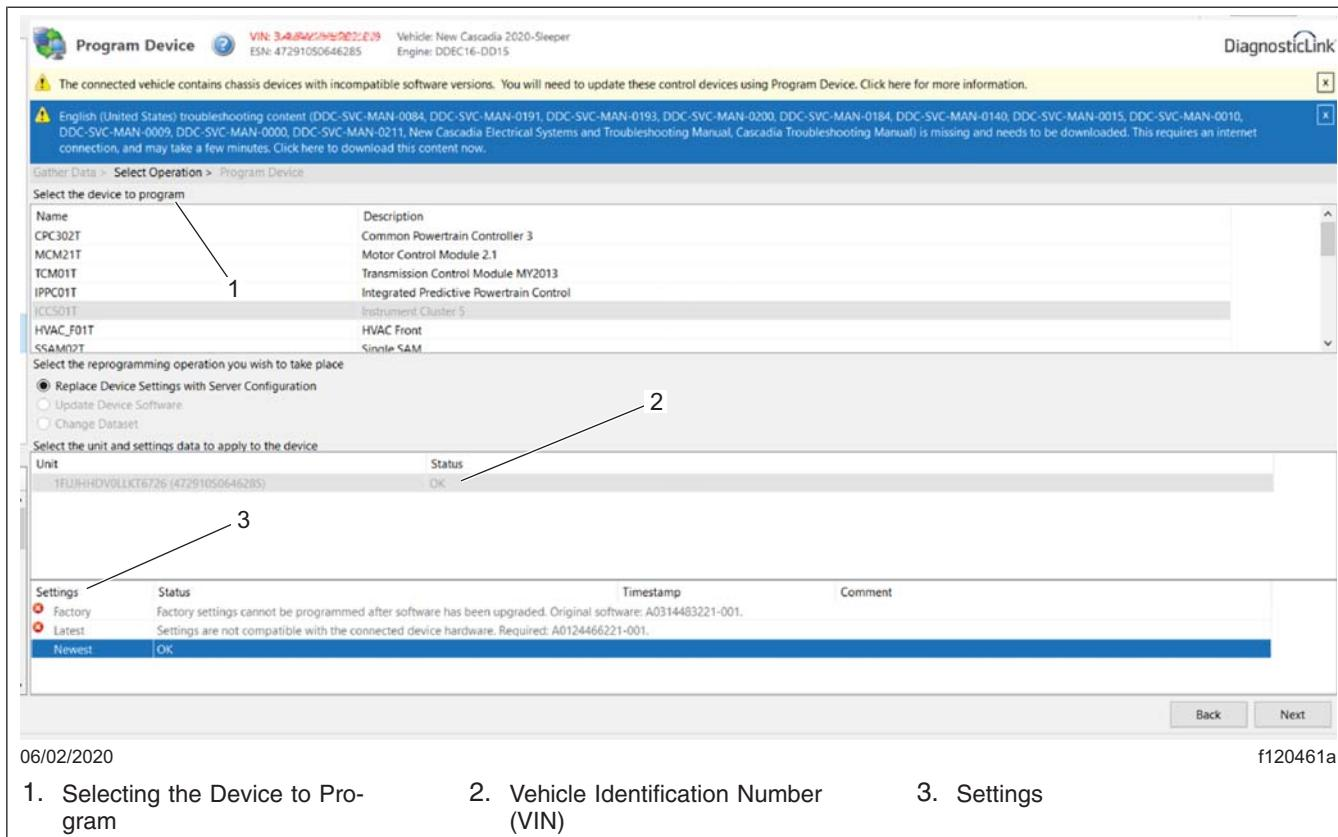

Fig. 19, Selecting "Latest" or "Newest" Software
10. Select the CGW to program and select the VIN. Then, if a "Newest" record exists, select "Newest." If only a "Latest" record exists, then select "Latest." Click "Next." See Fig. 19.